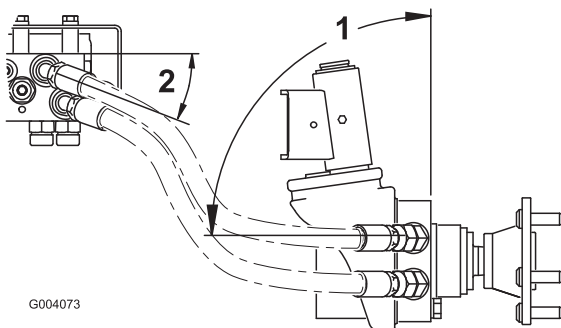

Figure 8
3. Repeat the procedure for the right wheel motor. Position the hoses as shown in Figure 8 and tighten all the hose fittings.